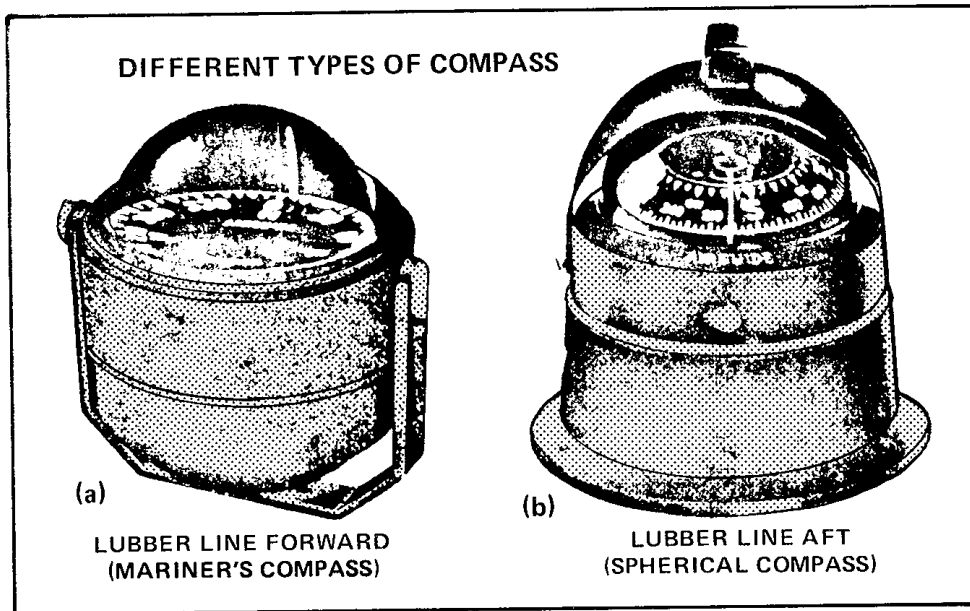

Figure 7-6 Different Types of Compass
17. **Choosing a Compass** — No fortune need be spent on a small boat compass intended only to provide a reasonably accurate indication of direction. Bulkhead (dash-board) mounting is simple, and a wide range of styles, sizes, and prices is available. Many small compasses have a **card built like a drum**, with the graduations on the side. The hemispherical cover, of glass or plastic, may have the **lubber line on the aft side**. Others have a **flat card**, read through the cover and liquid, against **the lubber line on the forward side**. This arrangement provides magnification. All types have some form of **gimbals** (pivots) which allow the compass to remain horizontal as the boat rolls and pitches. (See Figure 7-6.)